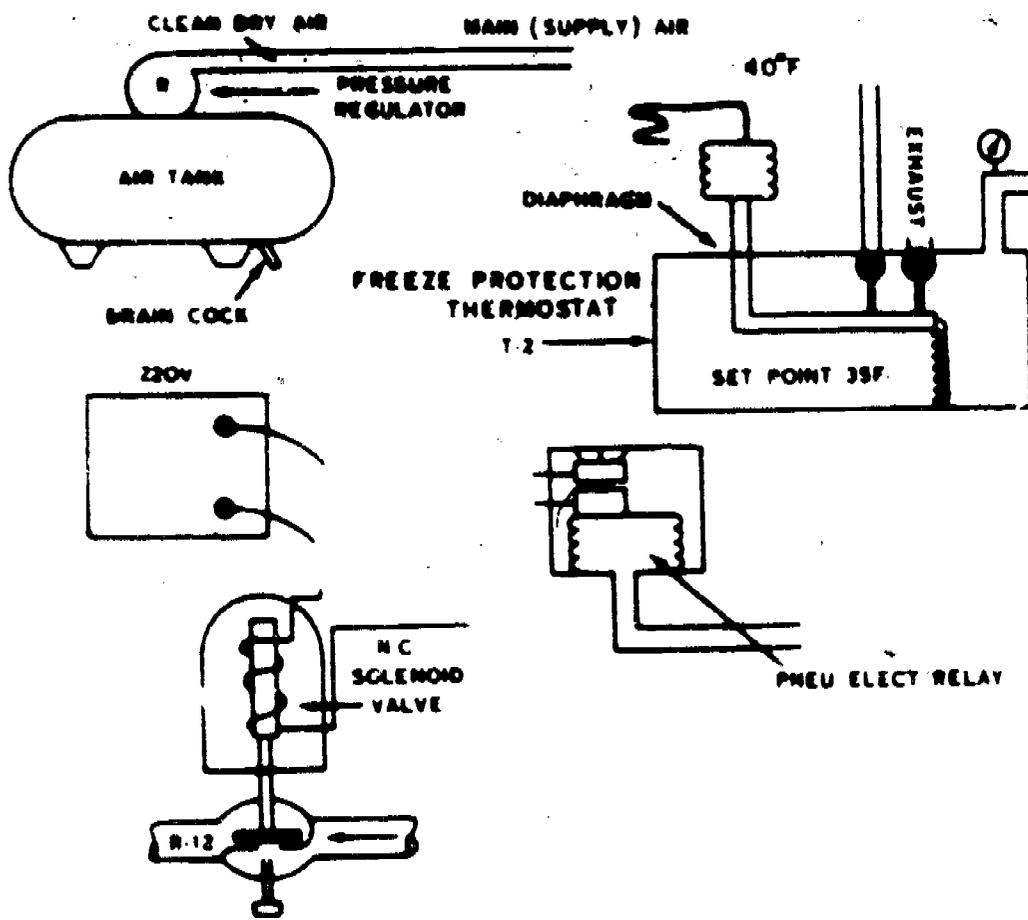

Figure 8. Freeze Protection System
1. Locate the units shown in figure 8 on the trainer.
2. In figure 8 connect the pneumatic lines with a red pencil.
3. In figure 8 connect the electrical lines with a blue pencil.